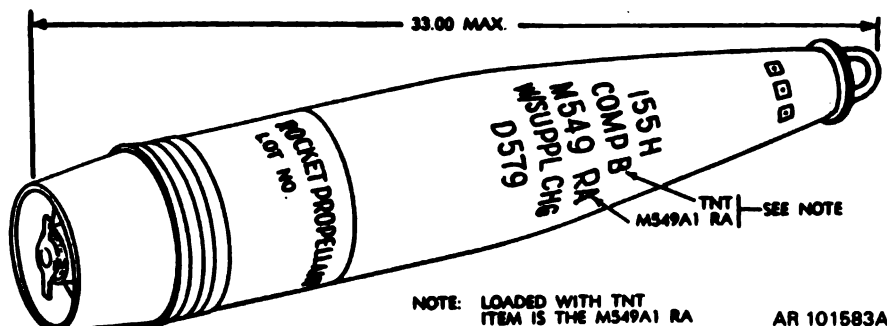

Figure 211.12. M549A1 projectile.
(11) *Projectile, 155-mm: high explosive rocket assisted M549/M549A1 (fig. 211.12).*